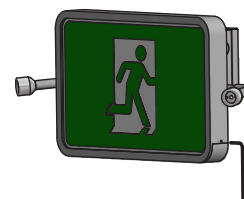

Figure 10
2. Remove bottom part of frame and slide out pictogram (figure 10).